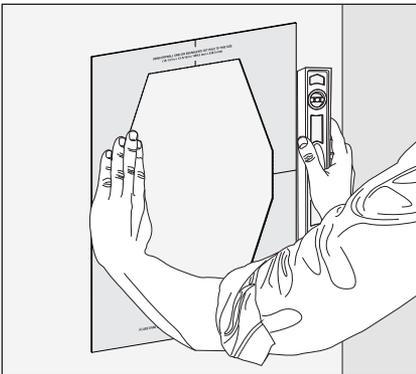

Fig. 3a
- 1) Place the mounting template onto the wall. Use a level to make sure it's straight (Fig 3a).